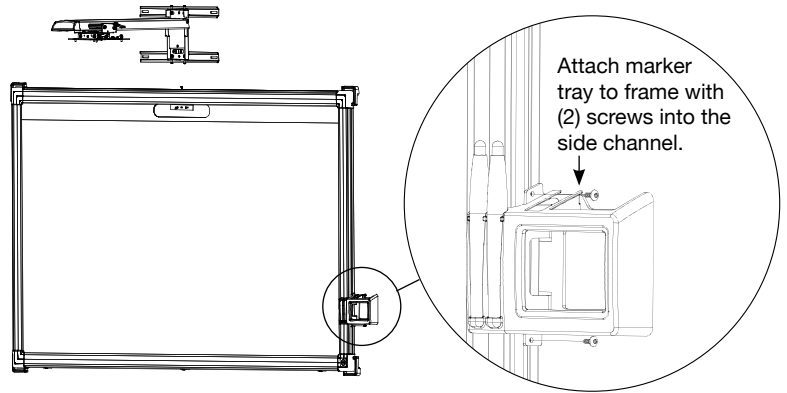

Figure 8
15. Secure marker tray to right side of screen frame at desired height by using (2) of the supplied #8 x 1/2" screws into the side channel of the screen frame (Figure 8).